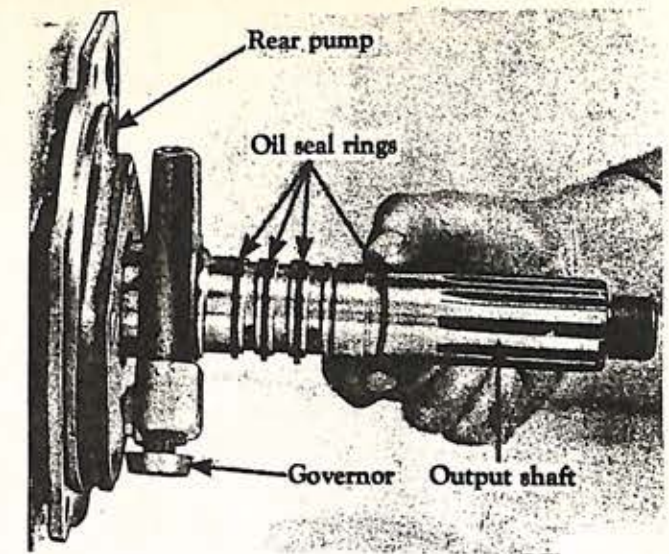

Fig. 46
3. Remove the four oil seal rings from the output shaft with the fingers to prevent breaking the rings (Fig. 46).